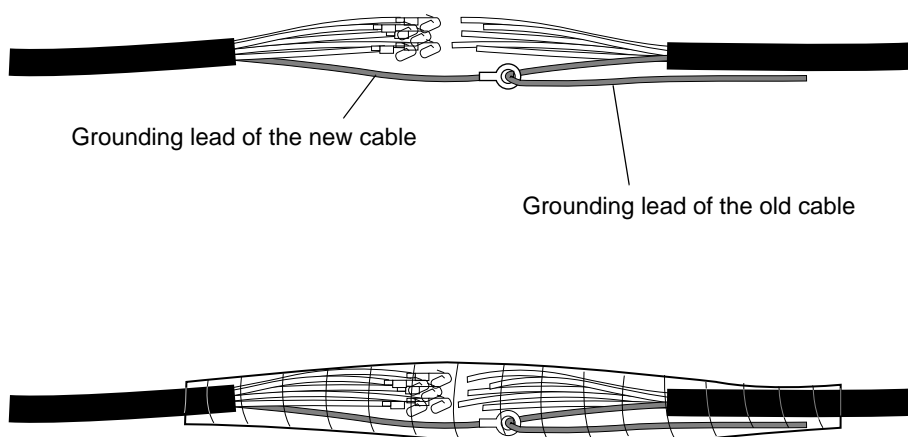

Figure 10
- j) Join the old and new cables together as described in Fig. 10 below. Tape the joining point firmly.